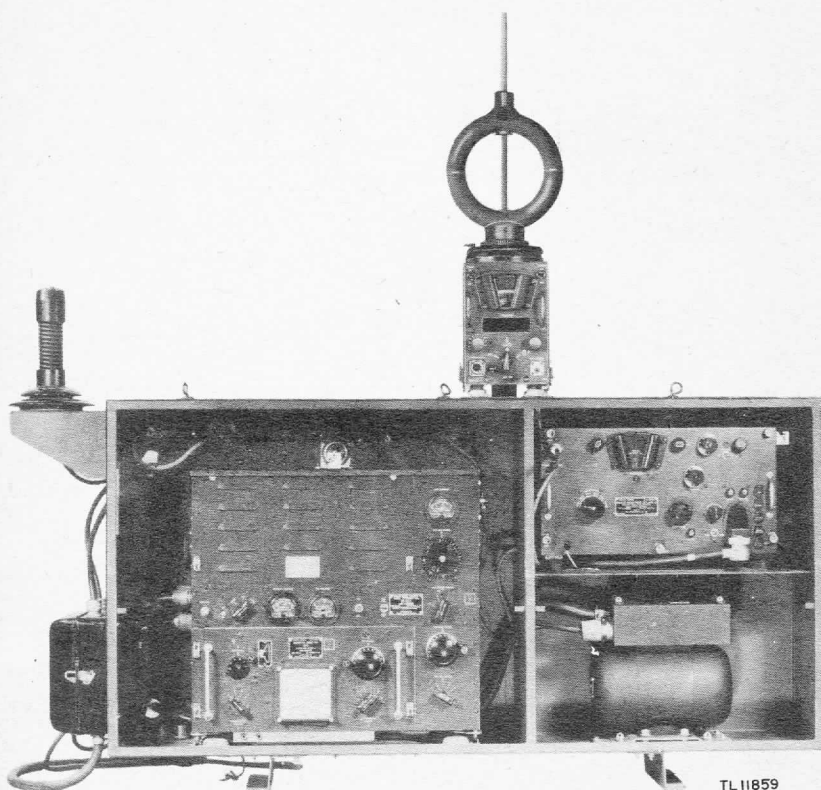

Figure 13. Antenna System AS-81/GR, mounted on Radio Set SCR-193-(&).
b. If Antenna AN-45-G is to be used with Antenna System AS-81/GR instead of with the antenna of the radio set, proceed as directed in subparagraph *a*(1), (2), (4), and (5) above. Be sure to omit the wire connection between terminal C and the AUX VERT ANT as described in subparagraph *a*(3) above. Extend Antenna AN-45-G to its full length, and screw it on the stud at the top of the loop.
8. INSTALLATION WITH RADIO SET SCR-193-(&) (fig. 13).